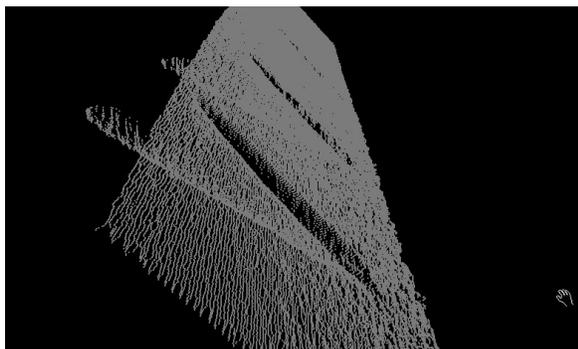

Figure 4 The partial surface of cooling hole ID is shown as protruding below the turbine blade surface
A **portion of the cooling hole inner diameter (ID)** is obtained from the same data set (Figure 4).